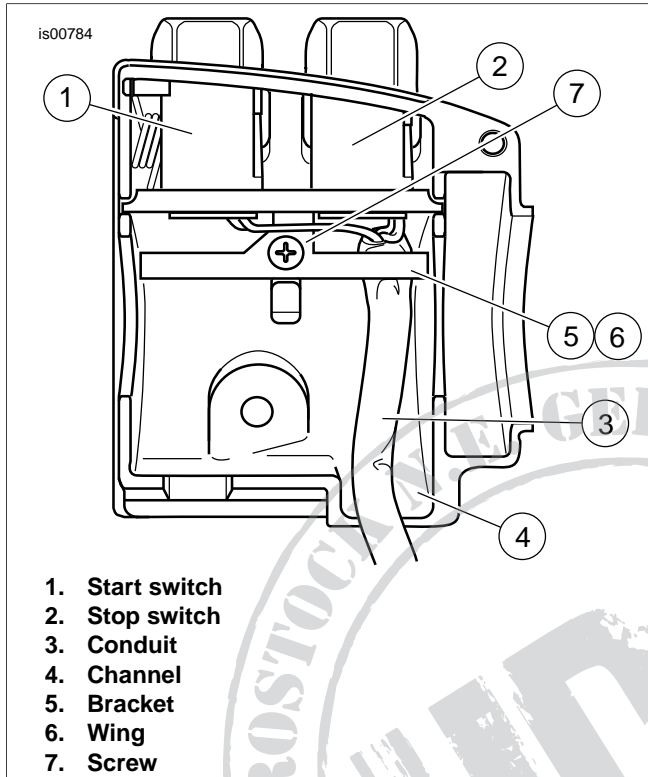

Figure 4. Upper Right Handlebar Switch Housing
1. See Figure 4. Place switch assembly and bracket (5) into chrome upper housing cavity. Align hole in bracket with threaded hole in boss.